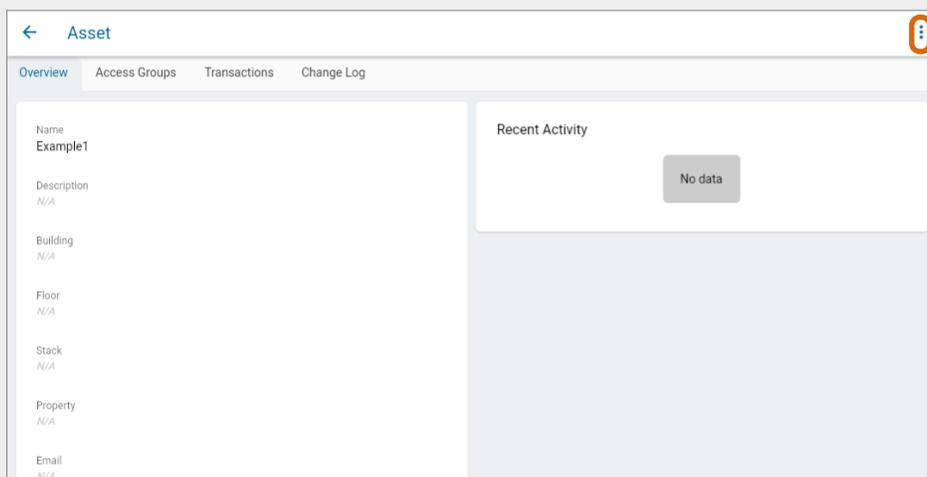

Fig. 87 – Asset details screen with quick action menu indicated
4. On the Asset details screen, click the **quick action menu** , shown in Fig. 87, and select **Attach Fob**.